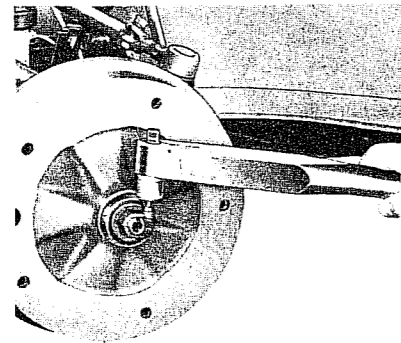

Fig. H.4. Tightening the clamp nut securing screw.
7. Tighten the clamp nut socket screw without moving the clamp nut. The gap should be 2.5 - 3.0 mm (0.10 - 0.12") (Fig. H 4).